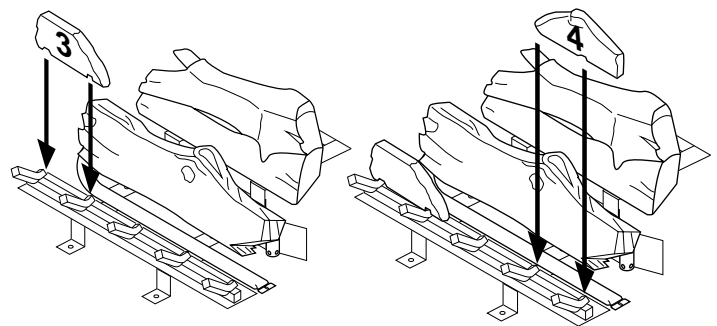

Figure 52 - Installing Log No. 3 Figure 53 - Installing Log No. 4
4. Place log #3 (left piece) onto the front left part of the grate. Make sure it is seated properly over the prong of the grate as shown in Figure 52.